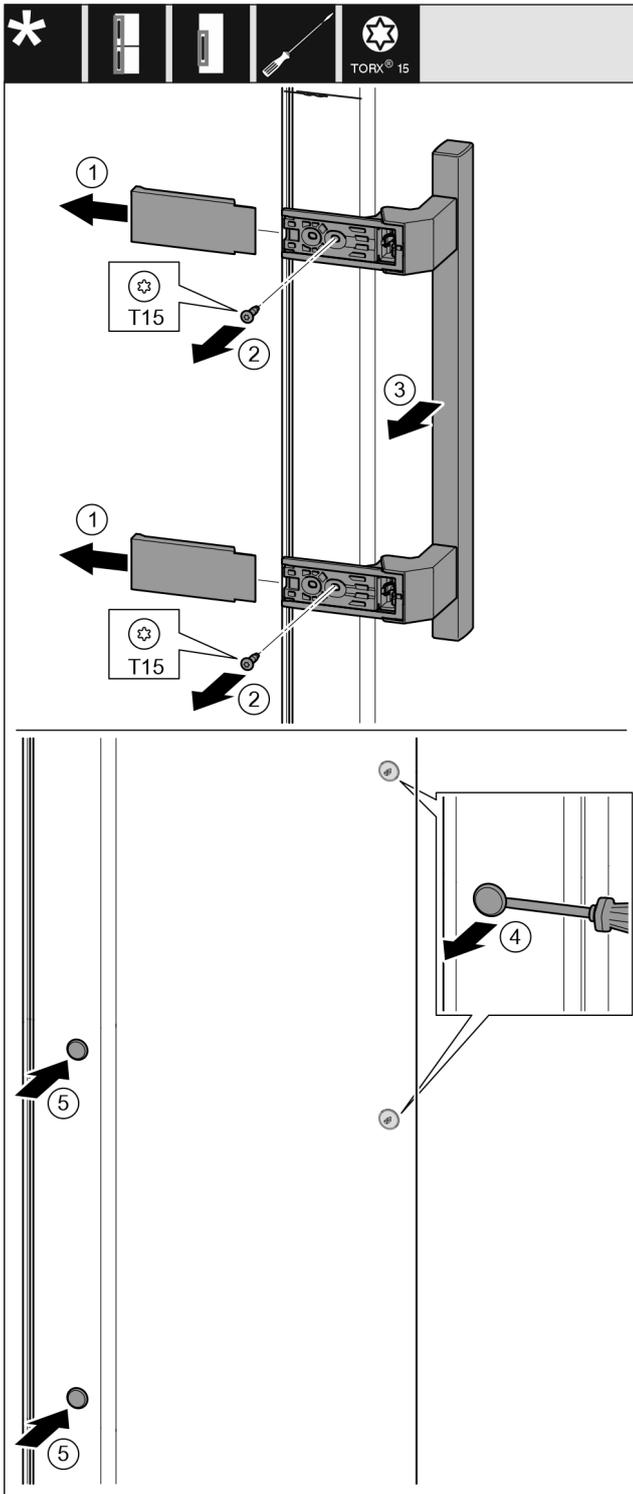

Fig. 18
- ▶ Pull off the cover. Fig. 18 (1)
- ▶ Remove the screws with a T15 screwdriver. Fig. 18 (2)
- ▶ Take off the handle. Fig. 18 (3)
- ▶ Carefully lift up the side plugs with a slotted screwdriver and pull them out. Fig. 18 (4)
- ▶ Insert the plugs again on the other side. Fig. 18 (5)